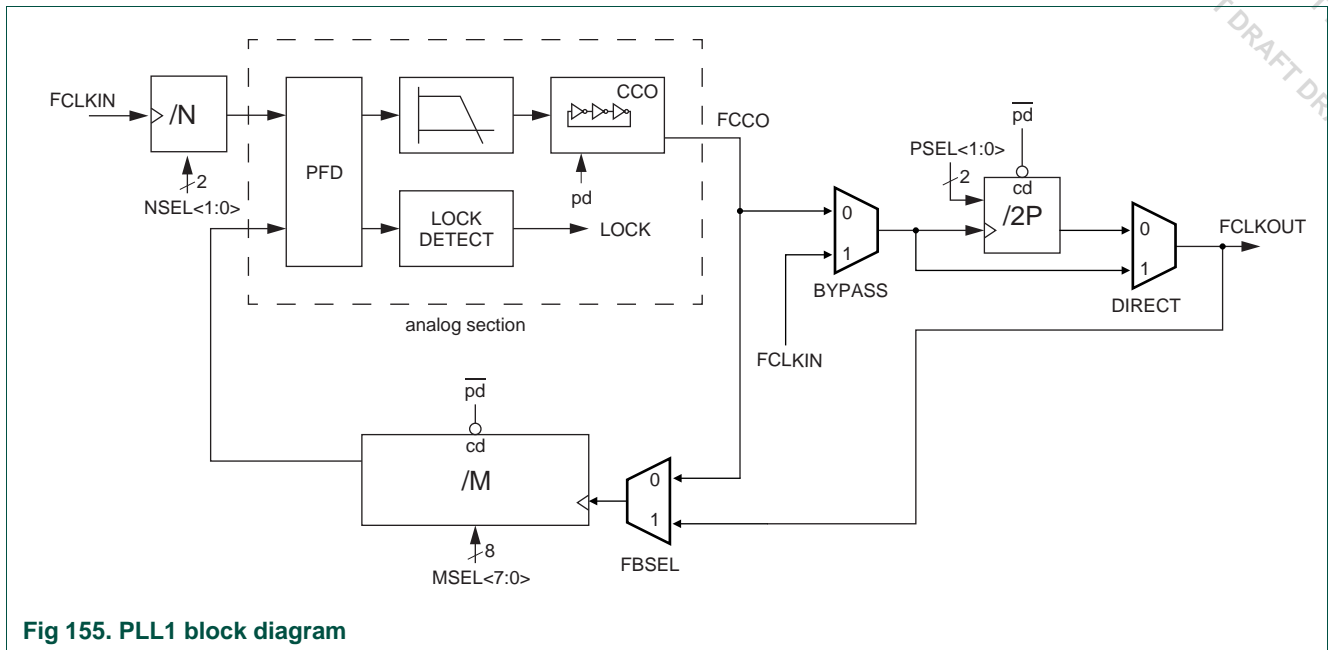

Fig 155. PLL1 block diagram
The block diagram of this PLL is shown in Figure 155. The input frequency range is 10 MHz to 25 MHz. The input clock is fed directly to the Phase-Frequency Detector (PFD). This block compares the phase and frequency of its inputs, and generates a control signal when phase and/ or frequency do not match. The loop filter filters these control signals and drives the current controlled oscillator (CCO), which generates the main clock. The CCO frequency range is 156 MHz to 320 MHz. These clocks are either divided by 2xP by the programmable post divider to create the output clock(s), or are sent directly to the output(s). The main output clock is then divided by M by the programmable feedback divider to generate the feedback clock. The output signal of the phase-frequency detector is also monitored by the lock detector, to signal when the PLL has locked on to the input clock.
**Frequency selection:** The PLL frequency equations use the following parameters (also see Figure 155):